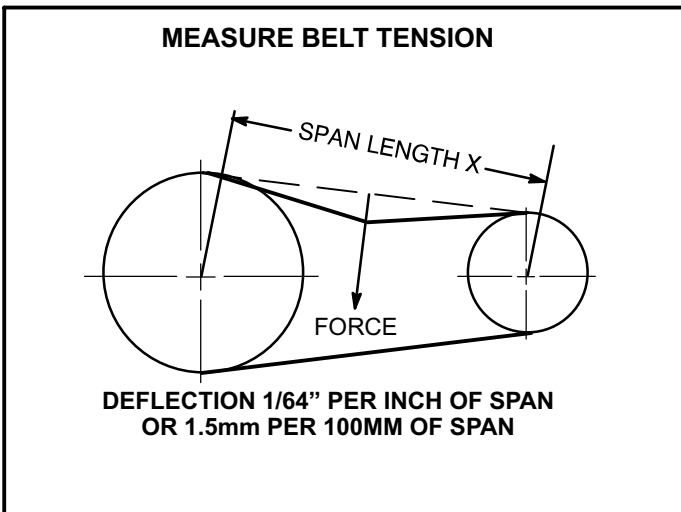

FIGURE 8
- 1- Measure span length X. See figure 8.